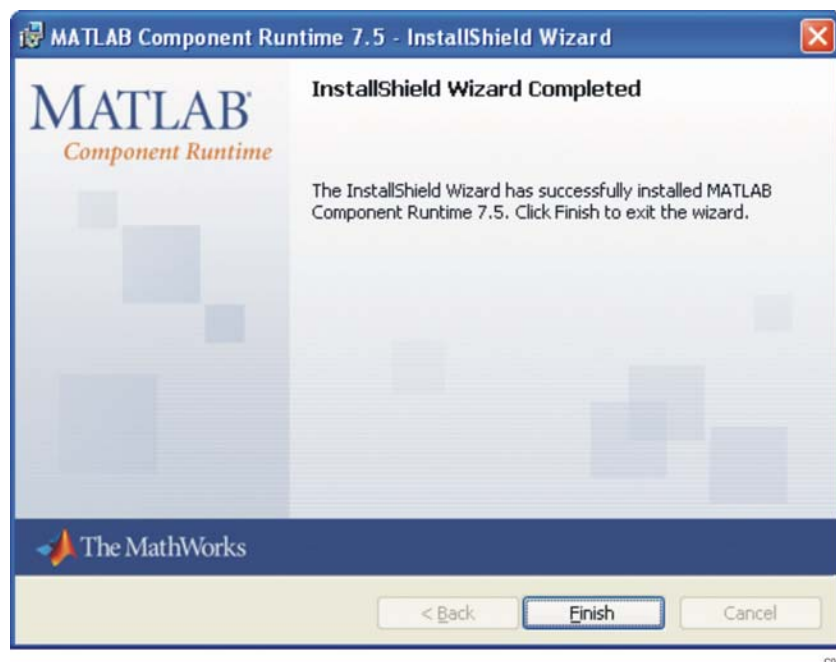

Figure 7. InstallShield Wizard Completed
6. Click *Finish* once the *InstallShield Wizard Completed* screen (Figure 7) displays.